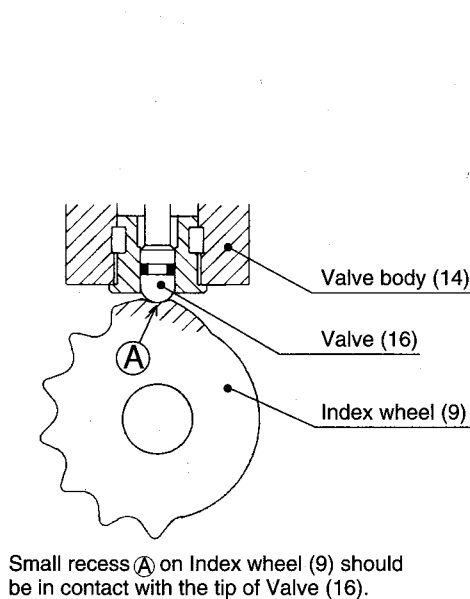

Fig. 6
- ① Rotate Index wheel (9) and set it as show in Fig. 6.